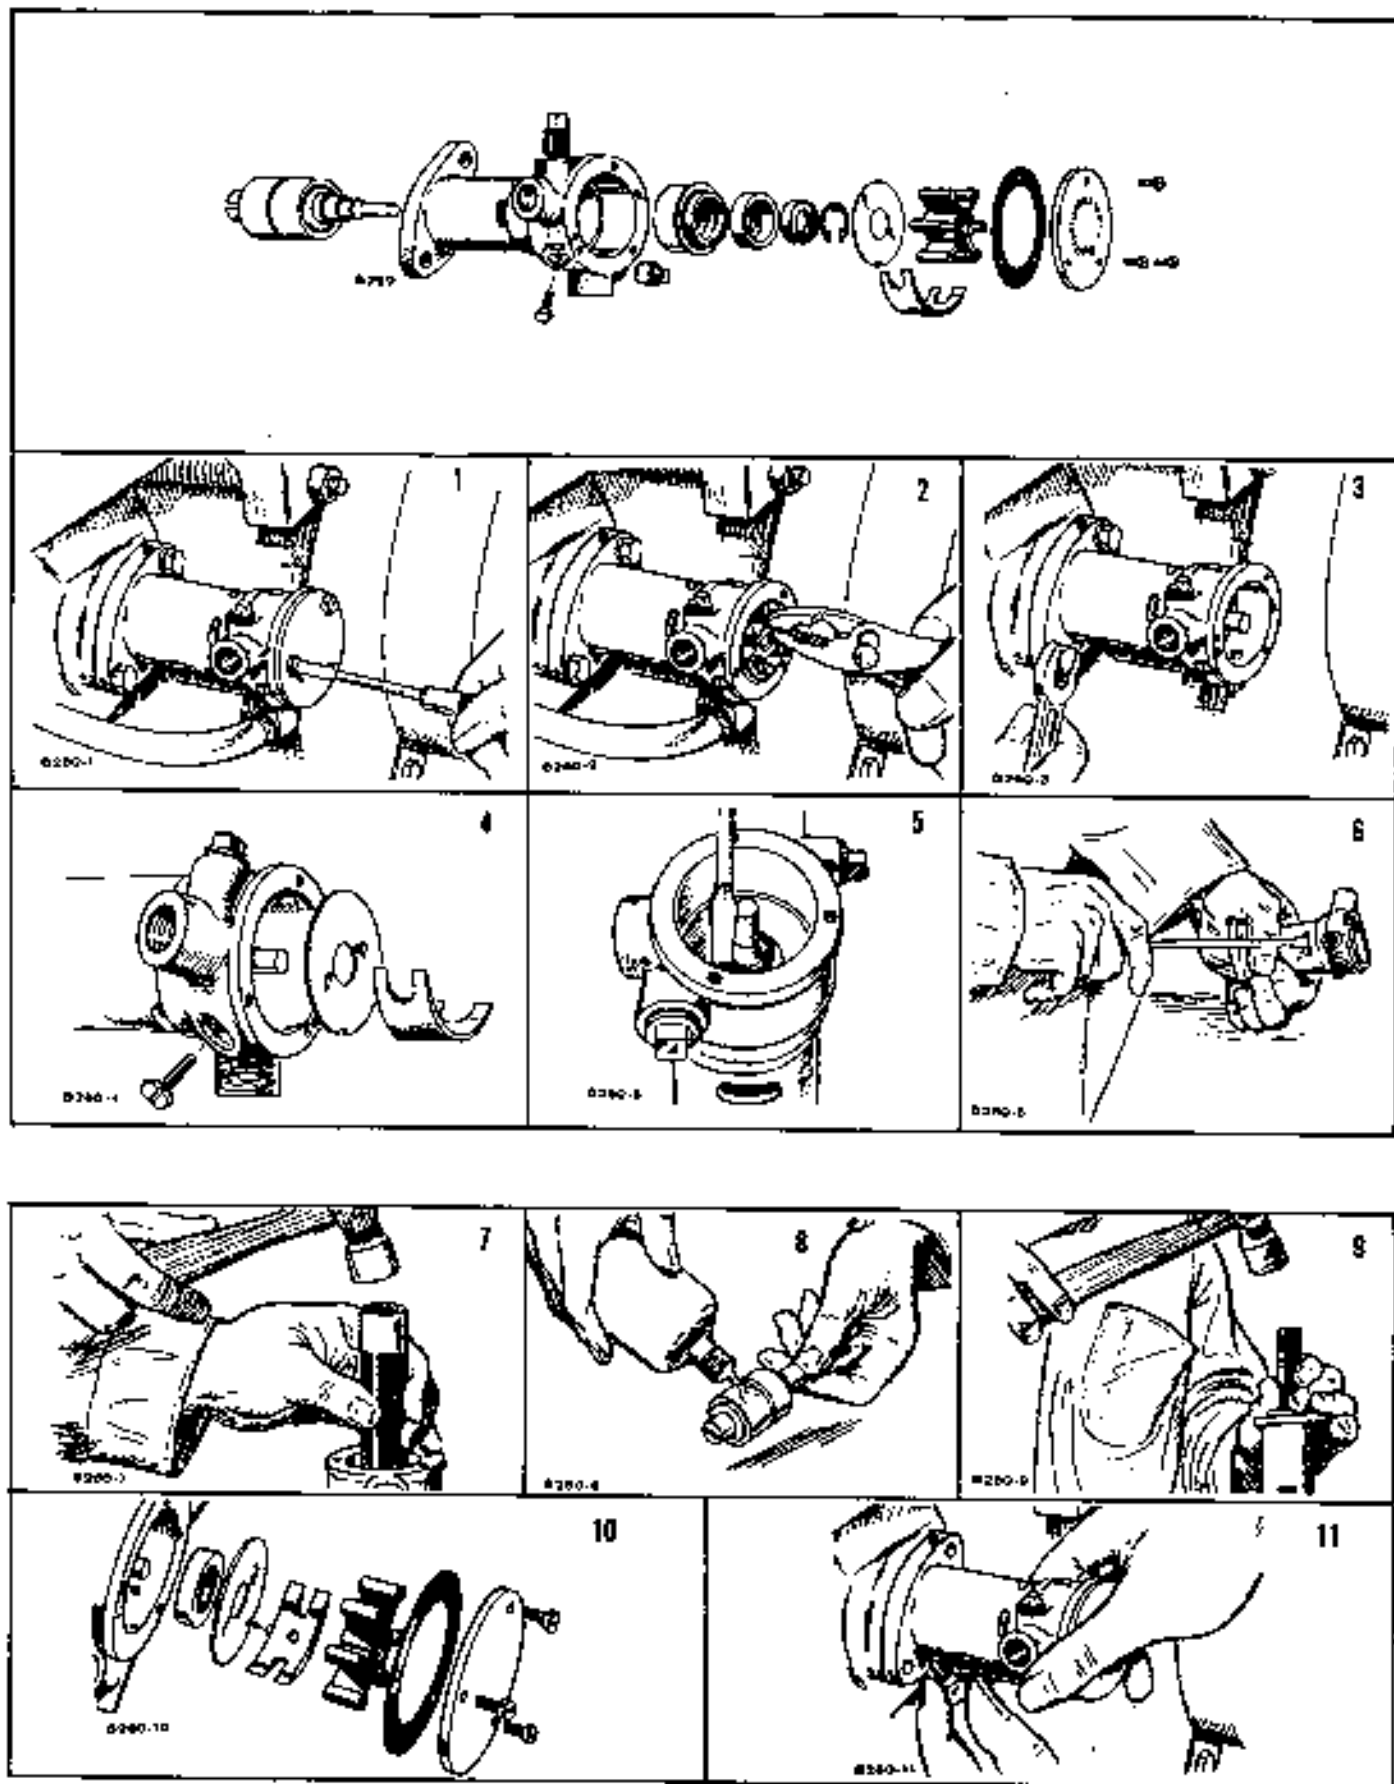

FIGURE 6-25. DISASSEMBLY—RAW WATER PUMP (131-0152)
1. Loosen pump end plate screws and remove end plate. Figure 6-25, step 1.
1. Place bellows in a counter bore and drive in place using special tool, Figure 6-25; step 7.